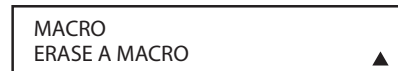

Figure 109.
3. At the next menu screen, press the **Navigation Button 16** until the bottom line in the remote's LCD reads **ERASE A MACRO**. Press the **Set Button 18** to begin the process of erasing a macro (**Figure 109**).